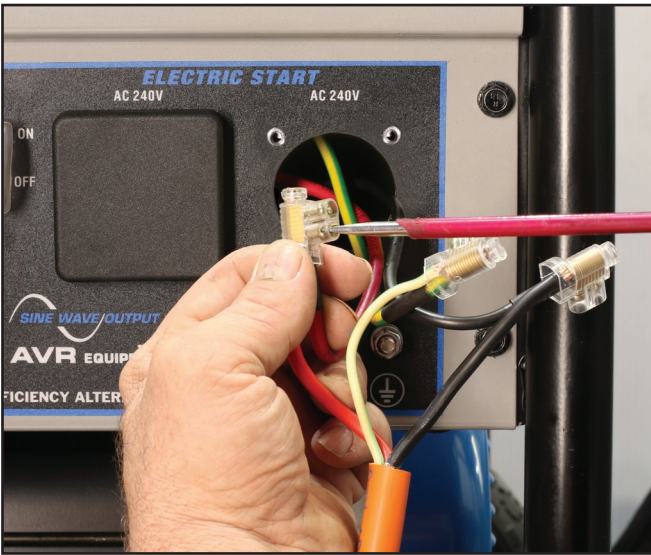

Figure S8 – Connecting the Cable
8. Connect the generator's active, neutral and earth wires to the corresponding cable conductors using your preferred method, e.g. crimp fittings, screw connectors, soldering, etc. See Figure S8.